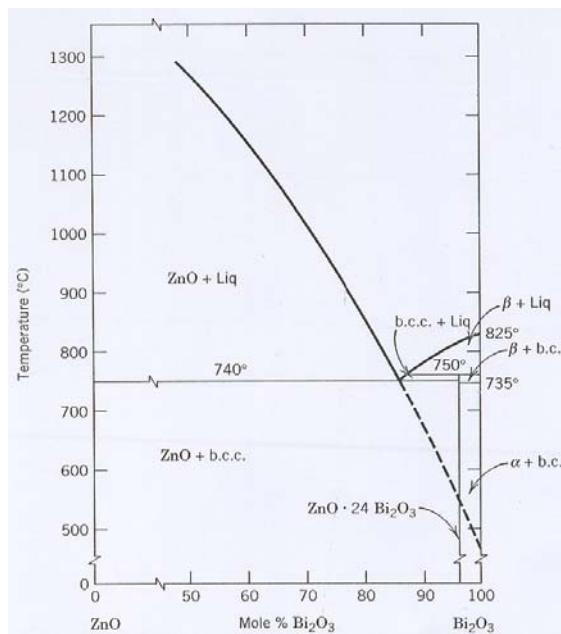

Figure 1: ZnO-Bi₂O₃ phase diagram, showing limited solid solubility of bismuth in zinc oxide and formation of eutectic liquid containing 86% Bi₂O₃ at 740°C.
- [c] While single-phase sintering have been the most studied from a basic viewpoint, majority of commercial ceramics have a small amount of reactive liquid which markedly accelerates the densification rate as compared with the pure system. Using the phase diagram of ZnO-Bi₂O₃ as shown in Figure 1, elaborate the reason(s) why Bi₂O₃ is a suitable additive for ZnO varistor fabrication. You must include necessary sketches in your answer.